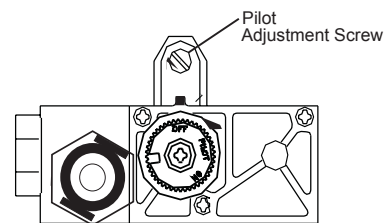

Figure 14 - Locating Pilot Adjustment Screw
- Turn the adjustment screw marked pilot clockwise to decrease or counterclockwise to increase the flame to proper size (see Figure 14). Do not attempt to remove the adjustment screw.